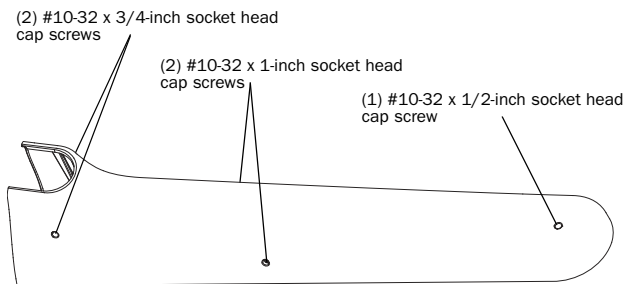

Figure 34. Attaching the plastic front leg caps
**1** Place the front leg caps over each leg. Attach each front cap with the screws indicated in Figure 34.